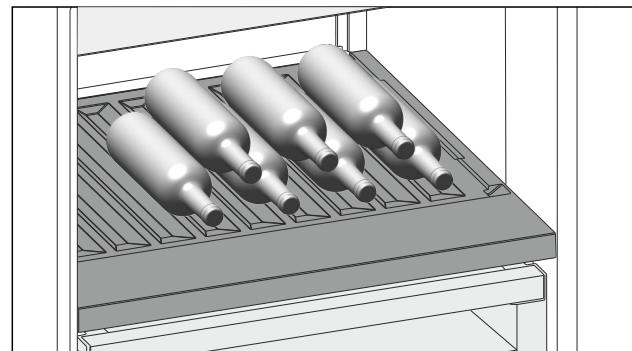

Fig. 114
- Place bottles in the back row with their bases against the back wall. (see Fig. 114)